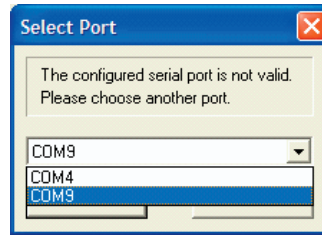

Figure 41. Select Port Dialog
- Select the serial port to be used (Figure 41). (If multiple COMx numbers are shown in the drop down menu, then choose the bottom COMx number.)